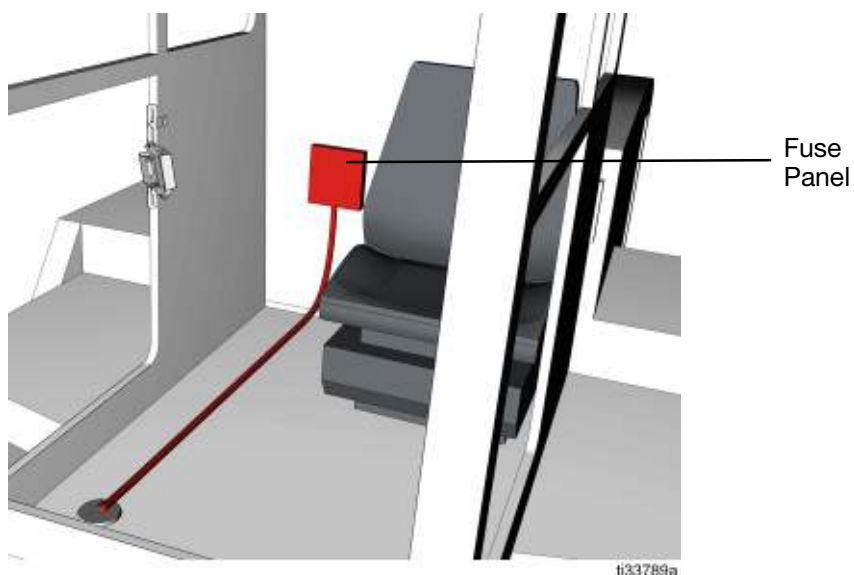

FIG. 15
- If the pump uses a controller, route the pump power cable into the cab, toward the fuse panel (FIG. 15). See **Wiring Guidelines**, page 18.